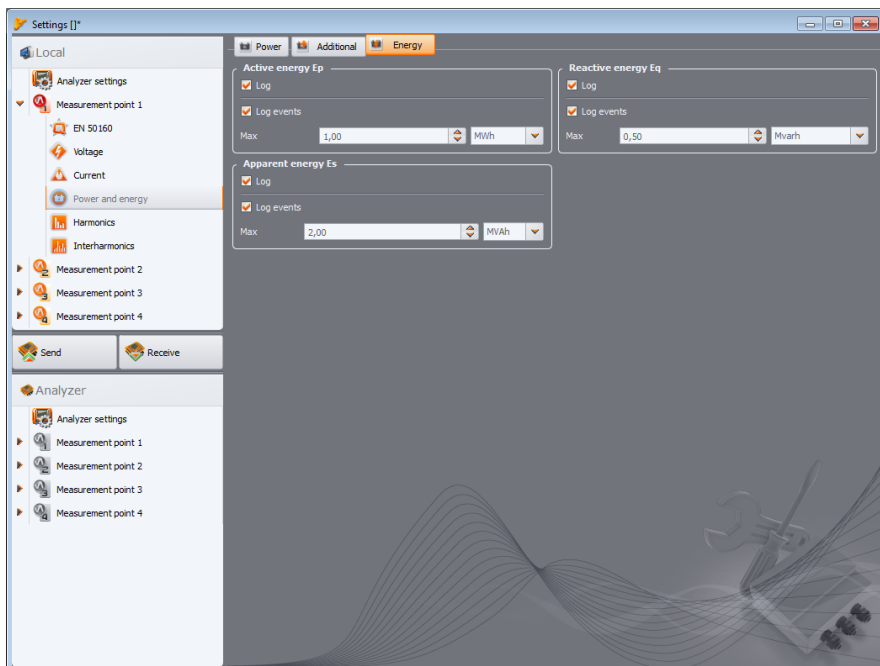

Fig. 24. Power and energy: Energy tab.
**Energy** tab is shown in Fig. 24. Apart from the option of enabling the recording process of energy values with a defined averaging period, the user may also define event detection when energy exceeds a given threshold. The setting ranges are as follows: